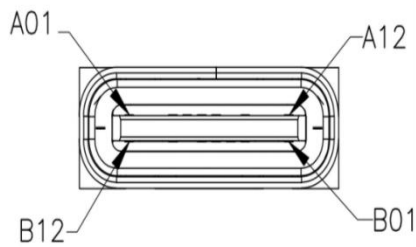

Figure 4-7 USB Port Pins
(9) Interface Description
a) USB: Figure 4-7 shows the instrument’s USB serial port pins. There are a total of 24 pins, labeled A01–A12 and B01–B12. The table below describes each pin; in the table, A and B indicate the corresponding upper and lower pins.